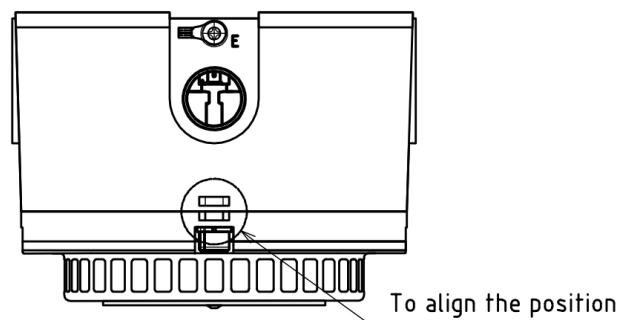

Figure 8 - Attaching the cover
- 4) Attach the cover to the base and align the binding band insertion slot (See Figure 8).